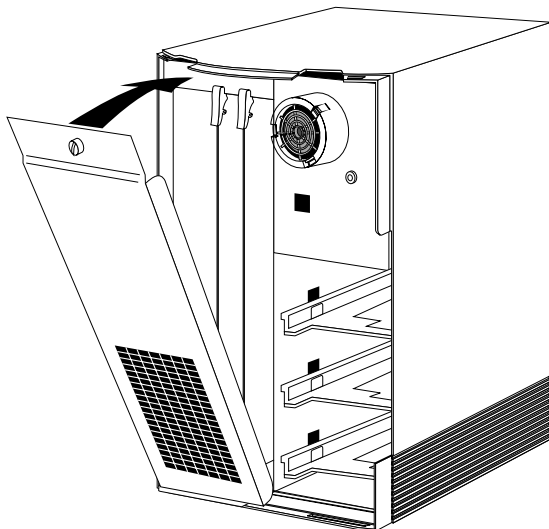

Figure 3-12 Tilting the Metal Panel Up to the IRIS Indigo Chassis
- Tilt the metal panel back up to the Indigo chassis, as shown in Figure 3-12.